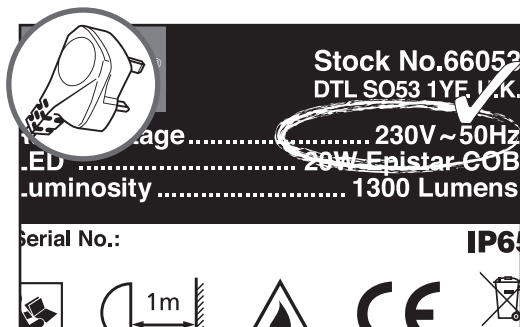

FIG.8 (Example 230V rating label).
9.1 POWER SUPPLY – FIGS. 8 – 9